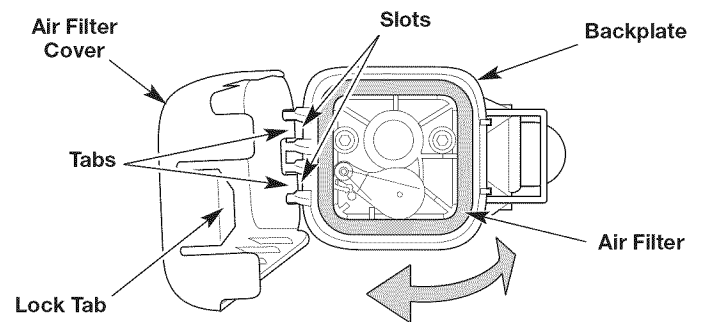

Fig. 14
1. Open the air filter cover: press in the lock tab and swing the air filter cover to the left (Fig. 14).
2. Remove the air filter (Fig. 14).
6. Reinstall the air filter (Fig. 14).
7. Close the air filter cover: insert the tabs on the air filter cover into the slots on the backplate. Swing the air filter cover to the right and press it closed until the lock tab snaps into place (Fig. 14).